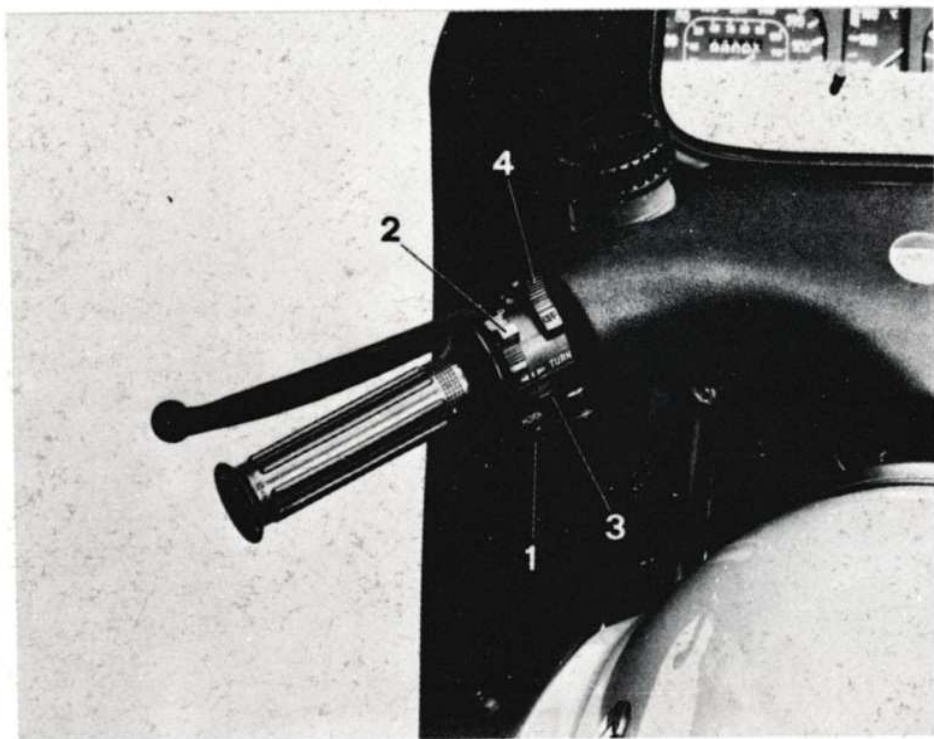

Fig. 4
**Left Handlebar Cluster Switches. Fig. 4**